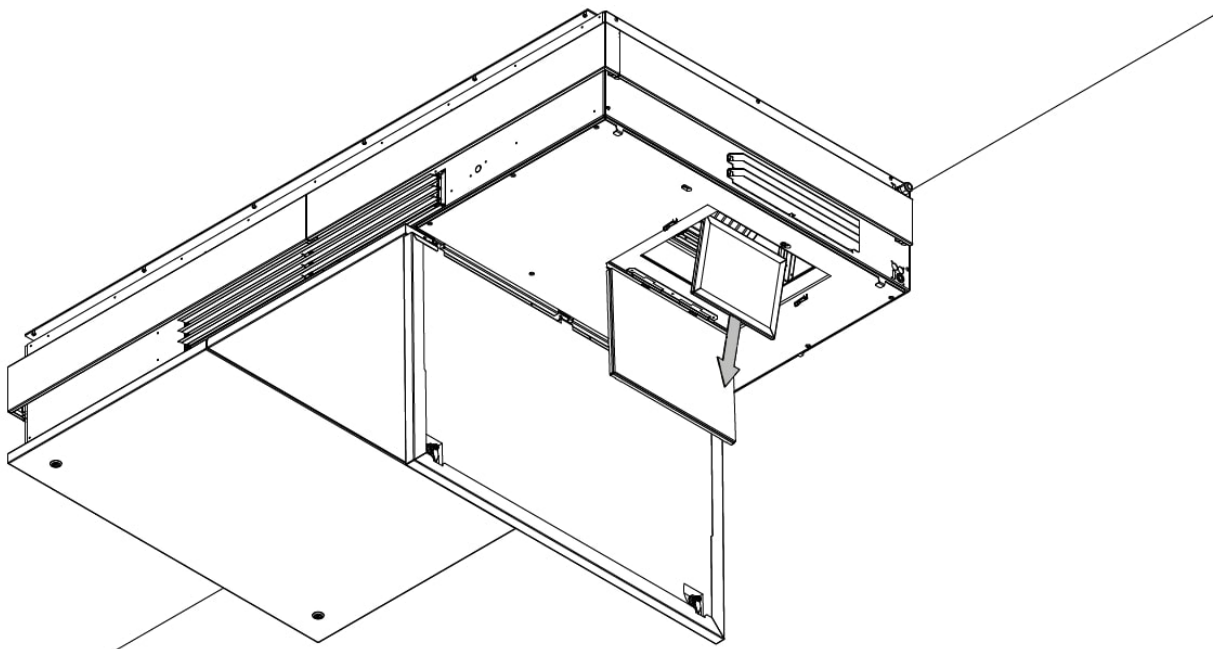
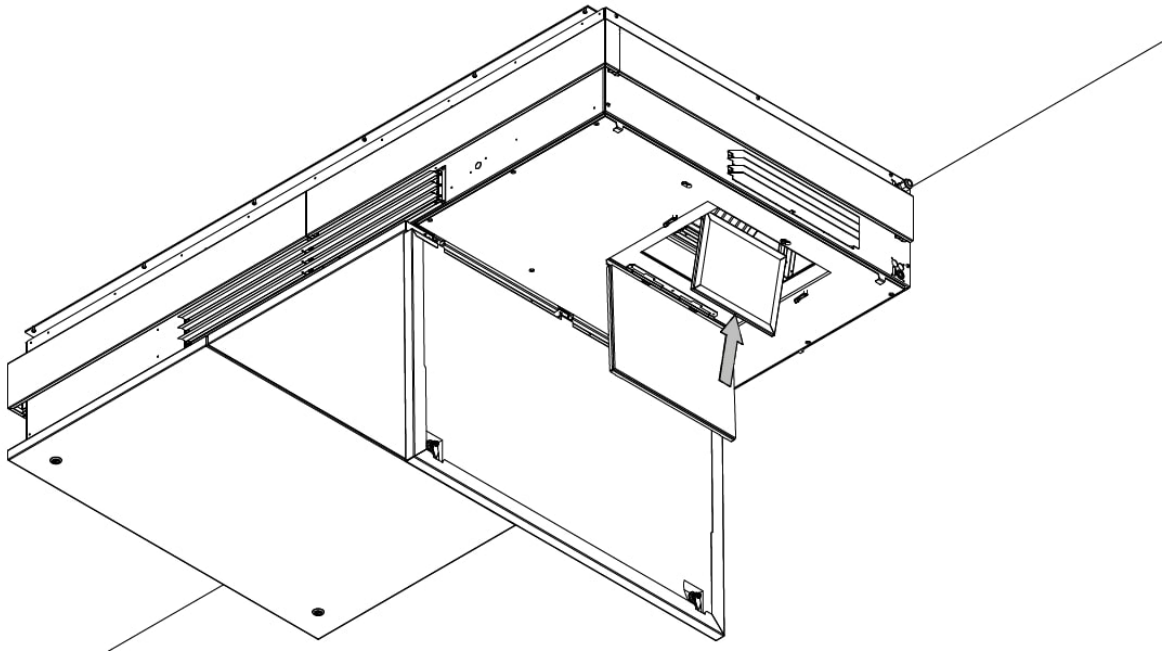

Figure 11: Take the coarse filter out
Figure 12: Replace the coarse filter with a new one
4. Take the filter out and replace it with a new one, see Figure 11 and Figure 12.